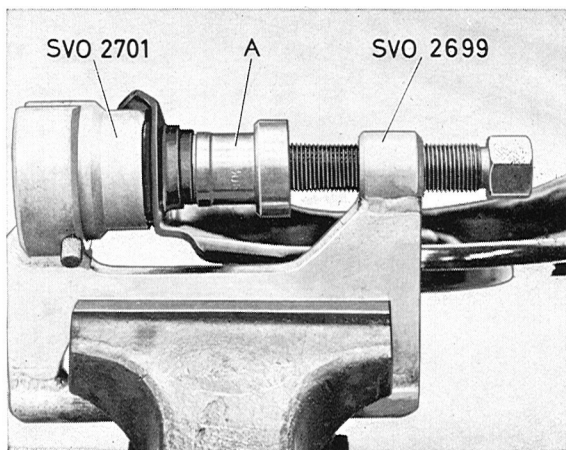

Fig. 6-37. Removing bushing, lower control arm
1. Tension the press tool 2699 in the vise. Remove the washer (1, Fig. 6-15), the rubber ring (2) and the spacer ring (3). Press the bushings out with counterhold 2701. Use drift 2904 for bushings where diagonal tires are installed and 2905 for radial tires. The tools are placed as shown in Fig. 6-37. The bushings are pressed out in the direction towards their flanges.
2. Press in the bushing with control arm and drift (A, Fig. 6-37) facing in the opposite direction.